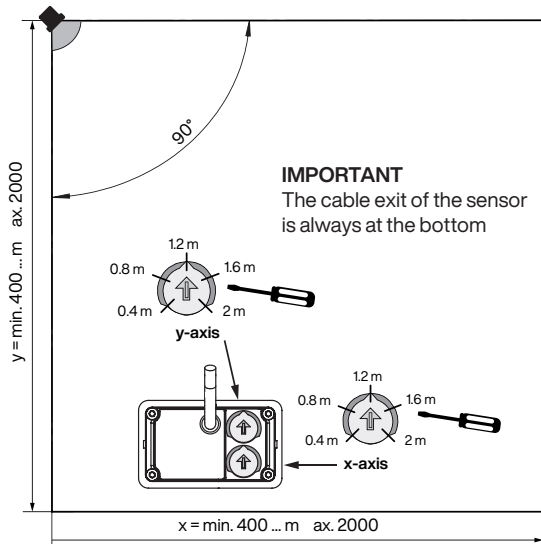

Figure 3: A type: Detection field using potentiometer
**When mounted horizontally, the cable exit of the sensor in the Figure 3 is always at the bottom.**
- The scale is not printed on the sensor. The potentiometer can be adjusted linear from 0.4 m to 2.0 m; see Figure 3 below.